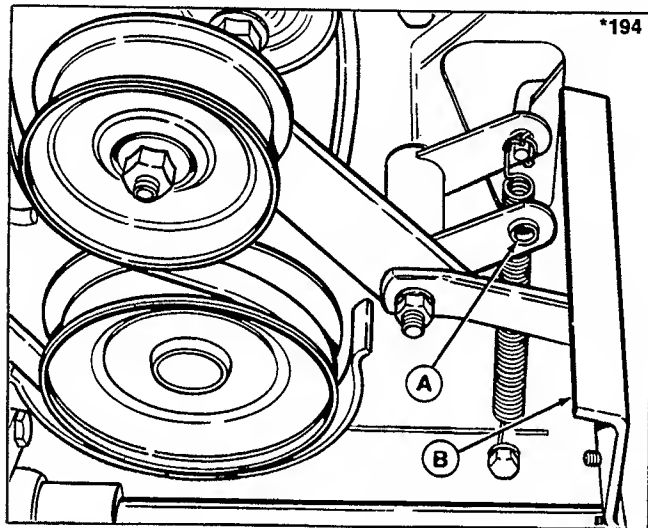

Figure 24. PTO Linkage
8. Push the brake (F, figure 21) away from the pulleys so the brake rod (D) will clear the tire and left side plate. Insert the brake rod just inside the left side plate and insert the end of rod into PTO linkage shown in figure 24. (Engage the PTO lever to change position of the linkage.) Secure the brake rod with a spring clip (insert spring clip from rear).
1. Remove the spring clip from the brake rod and remove end of rod from the PTO linkage (figure 24). Push brake rod forward to clear left side plate and tire and swing rod out toward left side.
11. Push the brake (D, figure 25) away from the pulley to insert the brake rod (A) just inside the left side plate. Insert the rod into the PTO linkage shown in figure 24. Insert the spring clip into the rod from the rear.